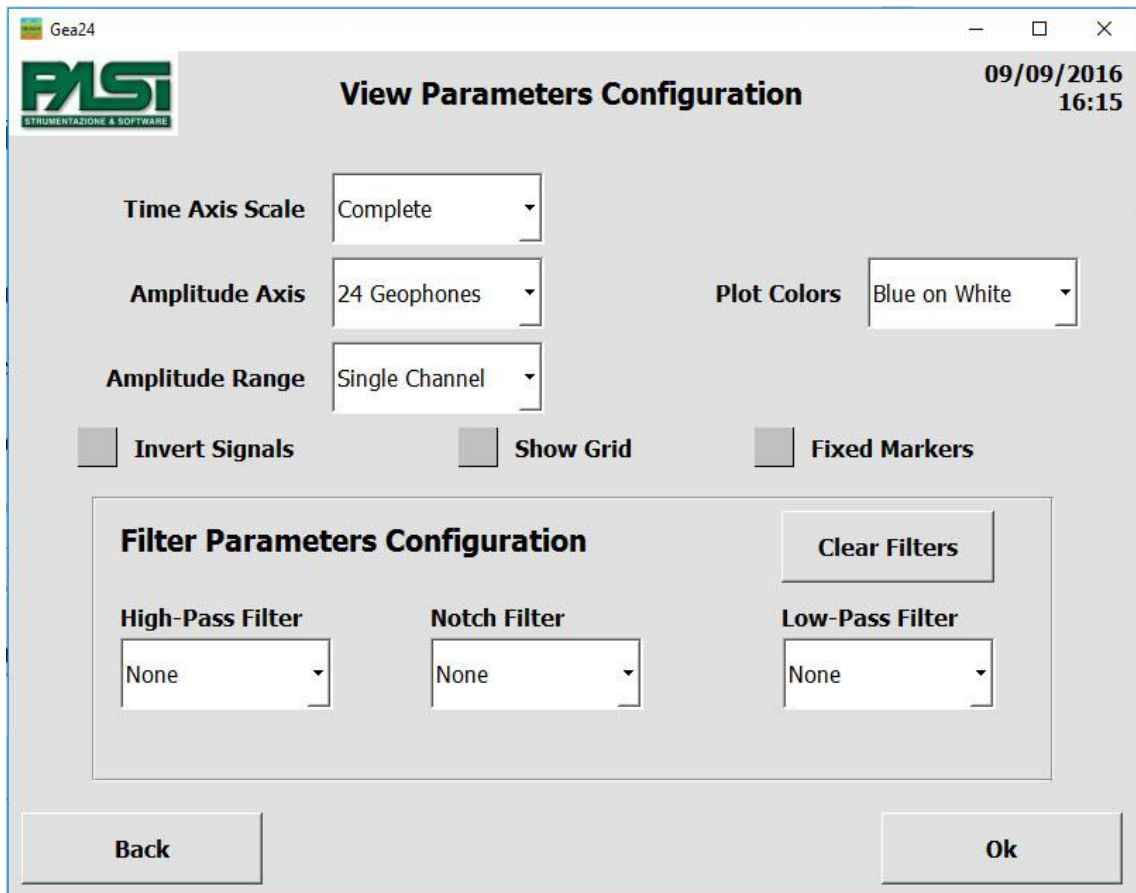

FIGURE 14 - PARAMETER AND FILTER DISPLAY CONFIGURATION
The window shows a progress bar that shows the pretrigger time as a percentage. At the end of the pretrigger time the bar will stop and go green, indicating that now you can proceed to trigger the event, the system will remain in this status until the event is triggered. The example in figure 14 shows the acquisition with a pretrigger time of 500 milliseconds, acquisition time after triggering of 2000 milliseconds, and a system that has acquired the pretrigger data and is ready to be triggered.
- View - changes the way the signals are displayed (see paragraph 6.4.5.1 in figure 14);